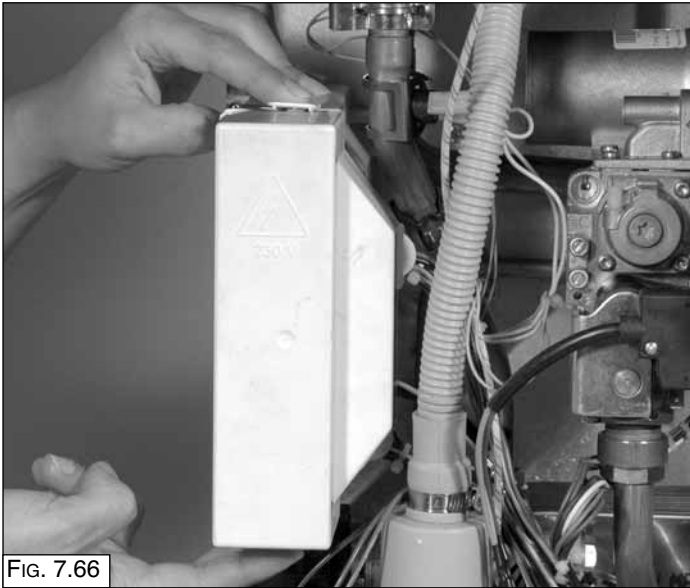

FIG. 7.66
1. Remove the inspection cover of the PCB box (Fig. 7.66 - 7.67);
1. Remove the inspection cover of the PCB box (Fig. 7.66- SECTION 7.6.7);